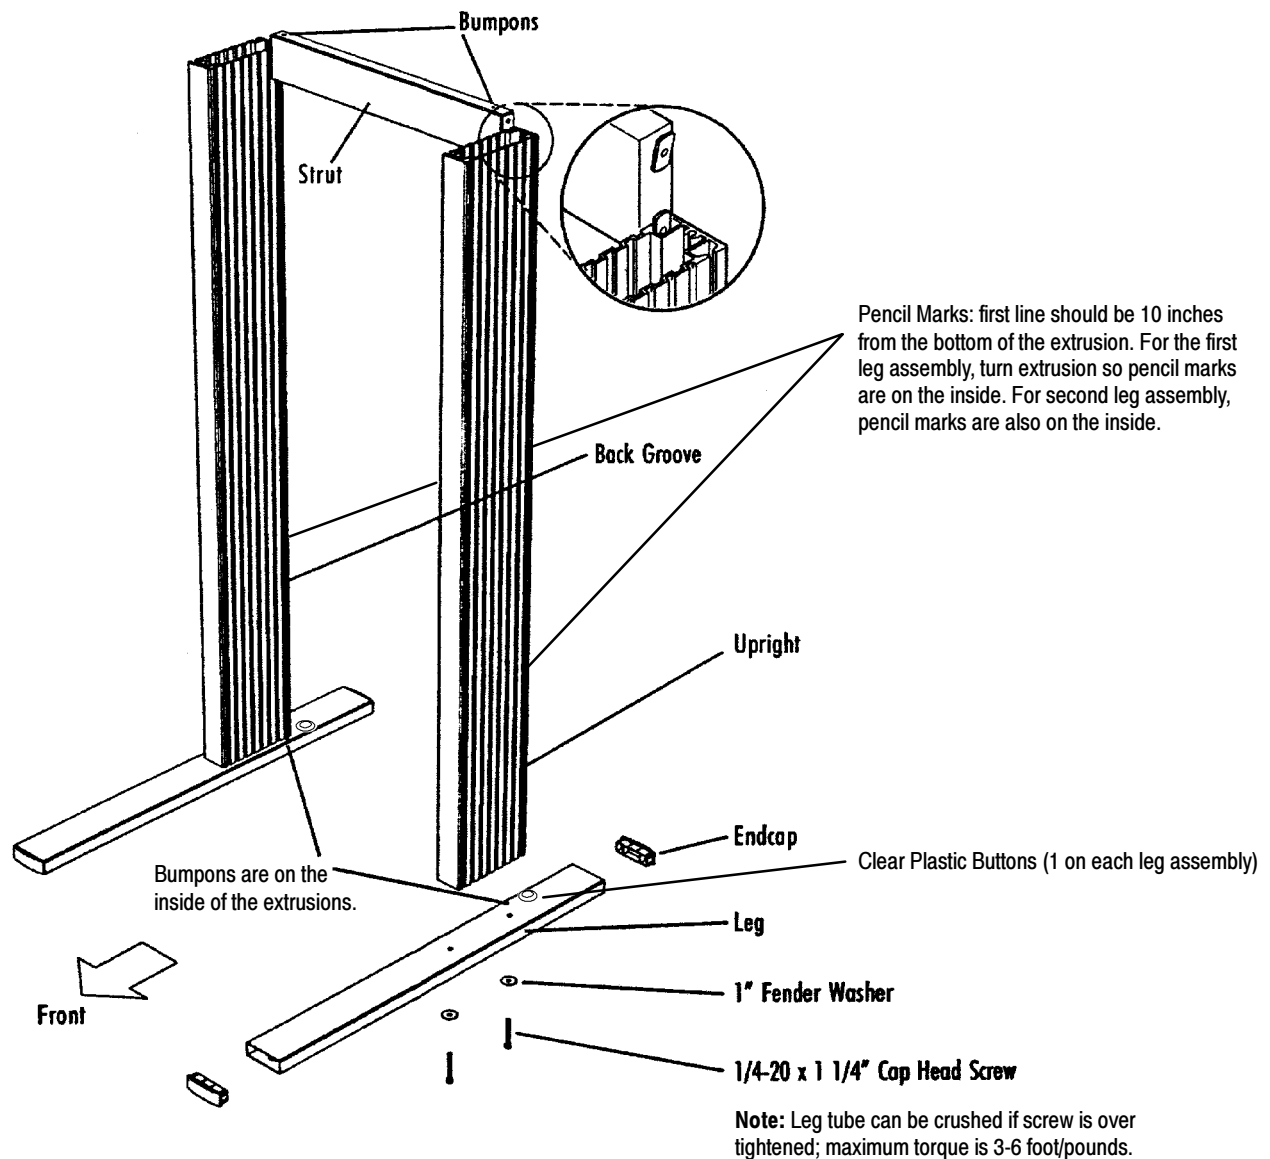

Figure 4: Aligning the Leg Assemblies and the Strut
3. Place four bumpons in-line as indicated by Figure 4. Two of the bumpons are placed on the inside top surface of each leg and in-line with the back groove. The remaining two bumpons are placed on top of the strut in-line with the back groove.
4. Position the strut horizontally between the leg assemblies, as shown in Figure 4, with the open side of the strut to the back. Line up the weld nuts with the back grooves of each upright. Slide the strut down to the base of the cart, adjusting the distance between the leg assemblies as needed. When complete, make sure the strut is resting tight against the bumpers placed on the legs.